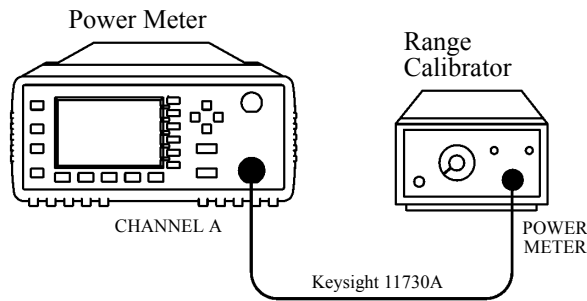

Figure 2-2: Instrument Accuracy Test Setup
- 1. Connect the equipment as shown in **Figure 2-2**.